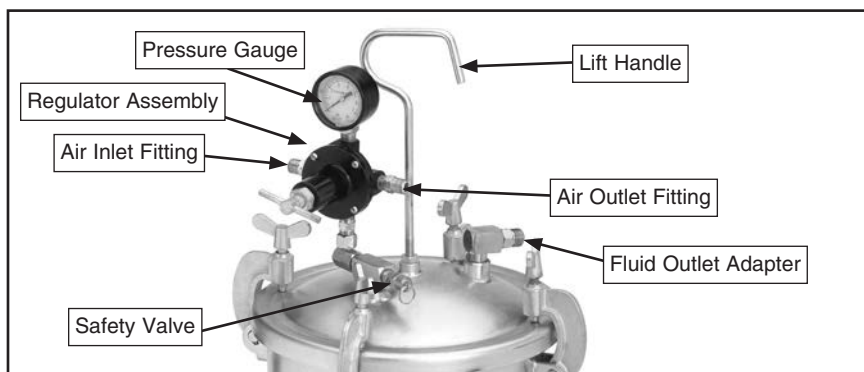

Figure 2. Regulator and lift handle installed on paint tank.
2. Thread the lift handle into the center hole on the tank lid (see **Figure 2**) and secure with the hex nut.
3. Thread the regulator assembly onto the swivel adapter on the lid, as shown in **Figure 2**.